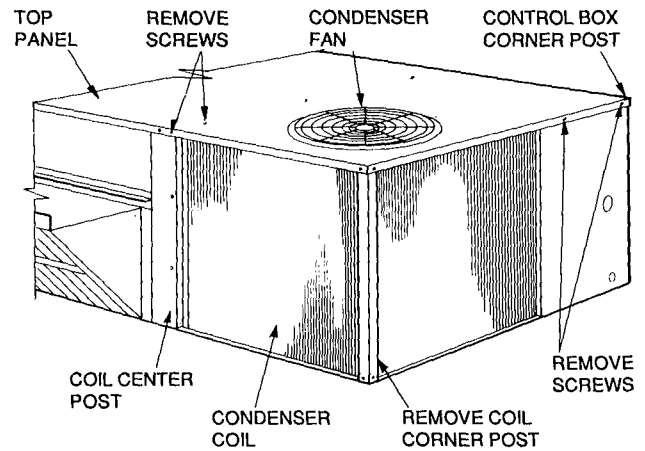
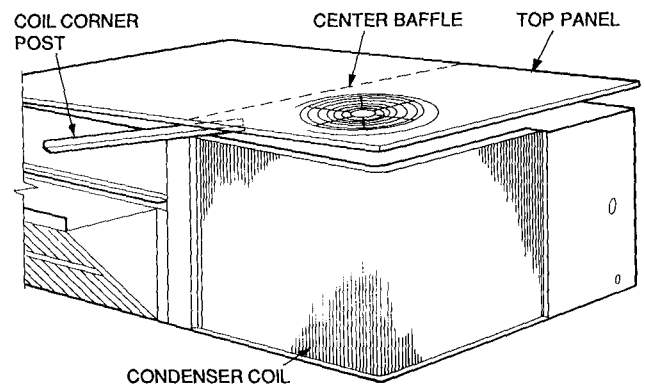

Fig. 13 — Cleaning Condenser Coil
Fig. 14 — Propping Up Top Panel
3. Remove condenser coil corner post. See Fig. 13. To hold top panel open, place coil corner post between top panel and center post. See Fig. 14.